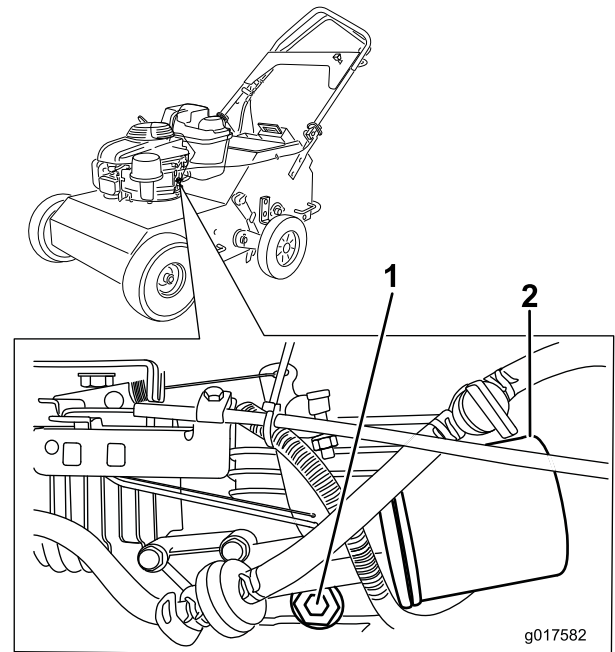

Figure 26
- Remove the drain plug (Figure 26) and tip the machine so the oil flows to the pan.
- Place a rag under the oil filter (Figure 26) to catch any oil that may leak out as you remove the filter.